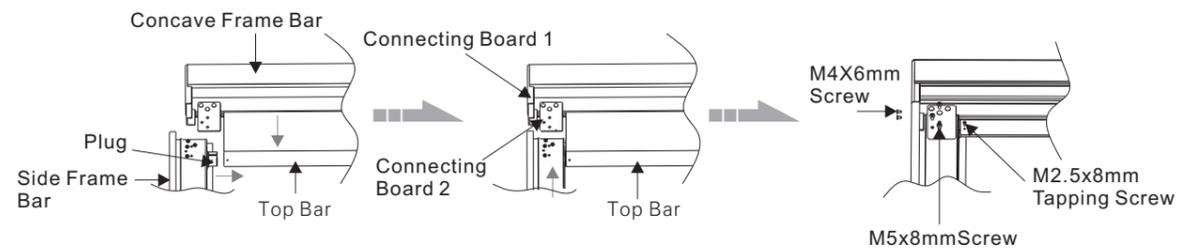

figure 2
1. Pull up the top bar to a suitable distance in order to attach the bar plug into it. And then insert the connecting board 1 and the connecting board 2 into Side Frame Bar (please operate together in two sides). Finally, fasten the corresponding screws: figure 2